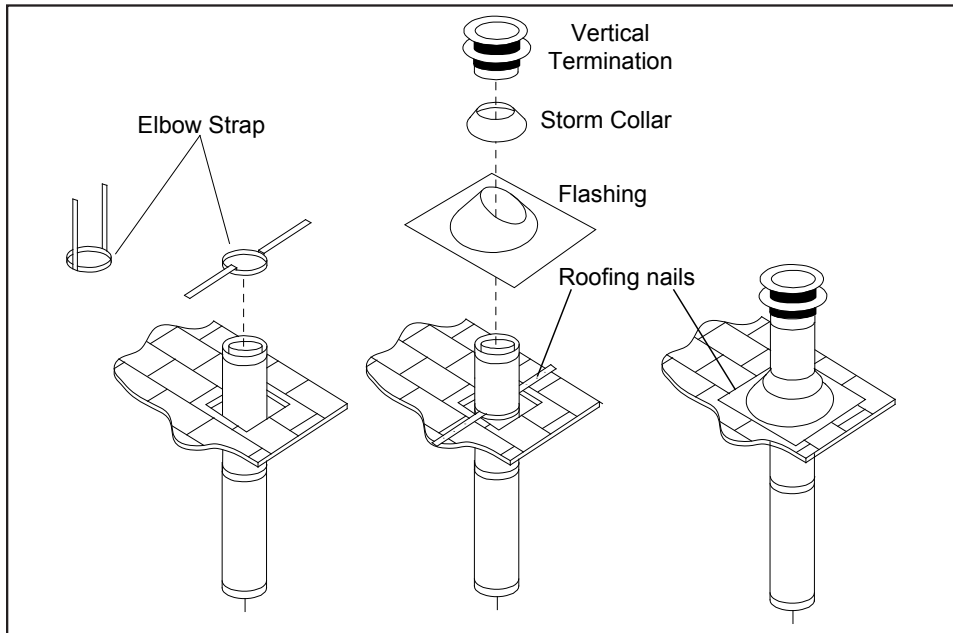

Figure 30: Vertical Vent Termination Installation.
elbow strap down to the roof level, as shown in Figure 30. Tighten the clamp around the pipe section. Use a level to make sure the pipe is truly vertical. With roofing nails, secure the support straps to the roof. Seal the nail holes heads with non-hardening mastic. Trim the excess length of the support straps that extend out beyond the edge of the flashing.
- Slip the flashing over the pipe section protruding through the roof. Secure the base of the flashing to the roof with roofing nails. Use a non-hardening sealant between the uphill edge of the flashing and the roof. Insure the roofing material overlaps the top edge of the flashing as shown in Figure 30. Verify that you have at least the minimum clearance to combustibles at the roof line.
- Slip the storm collar over the pipe, and push it down to the top of the roof flashing as shown in Figure 30. Use the non-hardening sealant around the joint between the pipe and the storm collar.